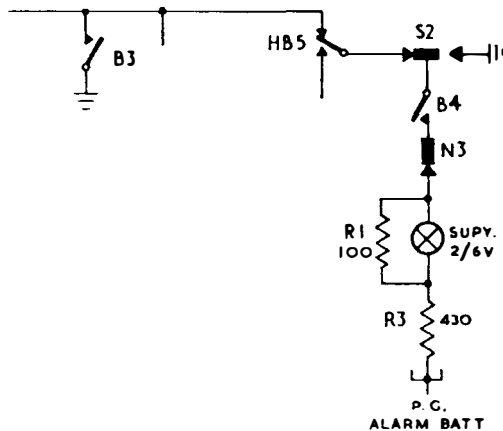

FIG. 3. P.G. SUPERVISORY ALARM.
**3.4 P.G. SUPERVISORY.** When contact A1 operates relay B, contact B3, as well as applying earth to the private, also extends earth via B4 contact and a supervisory lamp to a P.G. delayed alarm circuit. The supervisory lamp on the switch lights, and if the switch remains looped for 6 minutes without any vertical stepping, an alarm condition is given. If the switch is stepped vertically, N springs are operated, the lamp is extinguished and the alarm condition is removed (Fig. 3). In many exchanges this alarm is disconnected except for certain specified periods.